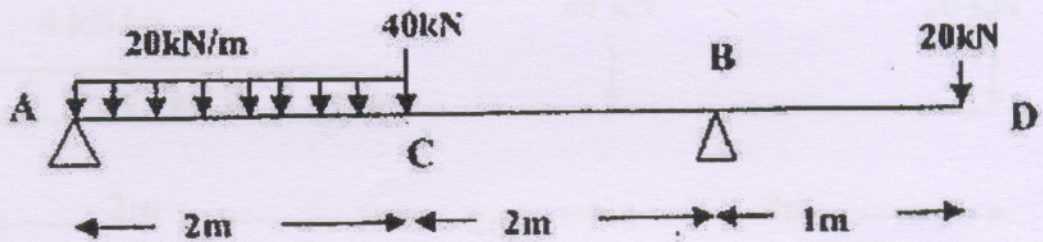

Fig. 2
3. (a) Draw SFD and BMD for overhanging beam as shown Fig. 2. Locate the point of contra flexure. [8]